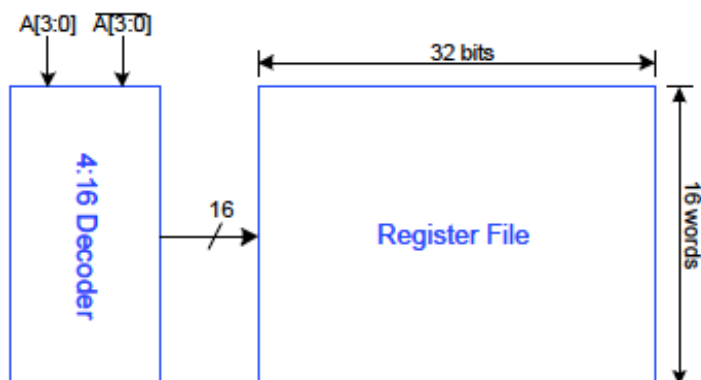
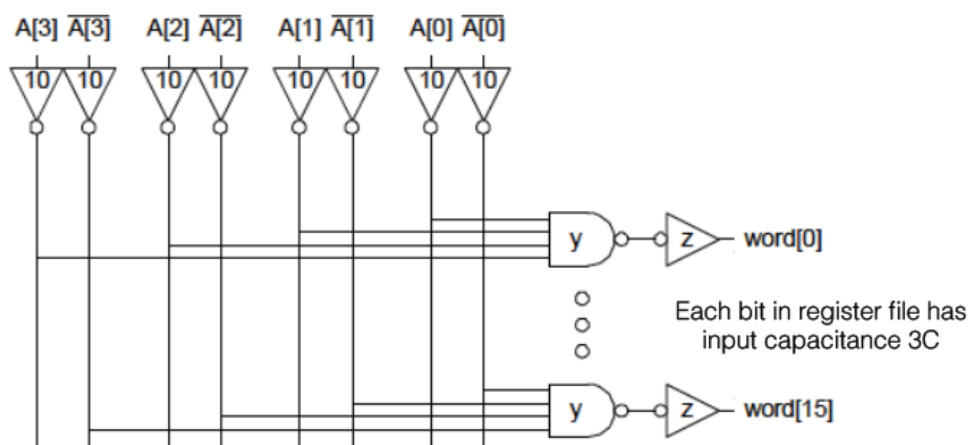

Figure 3: The register file with its 4-to-16 decoder.
Figure 4: A detailed schematic of the decoder circuitry.
- In Figure 2 is also a plot of the derivative of the VTC for the X output (the red dash-dotted line). From the data given in Figure 3 calculate the noise margin for the X output. The graph in Figure 3 is repeated in larger scale on the next page. (4 p)
3. **Logical effort, path effort** In Figure 3 you see a block diagram schematic of a register file with 16 32-bit words and a 4-to-16 decoder that selects one of the 16 registers according to the address $A[3:0]$. In this problem your task is to size the decoder circuitry shown in detail in Figure 4.
- How should the 4-input nand gate (y in Figure 4) and inverter (z in Figure 4) be sized for minimum delay with the assumptions given in Figure 4? Assume that an nMOS transistor has twice the current of a pMOS transistor of the same width. (5 p)